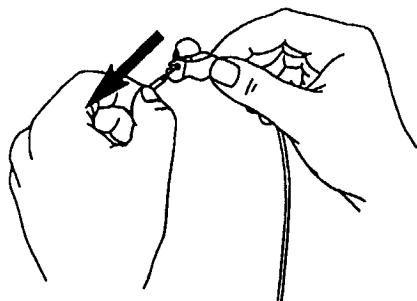

FIGURE 6: Remove the Needle Guard
- Step 5. Being careful not to touch the sterile needle, hold the Sensor Assembly in one hand and then remove the Needle Guard Tube from the Introducer Needle with the other hand (Figure 6).